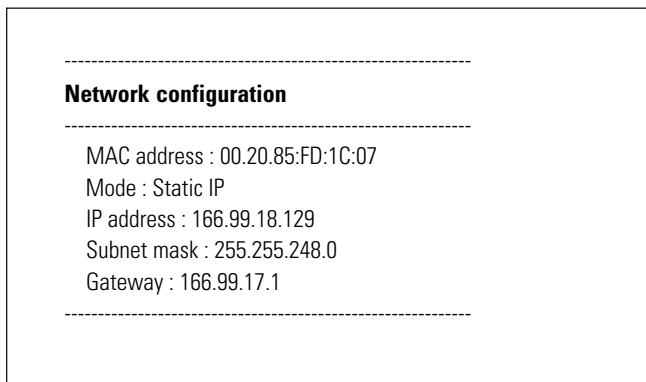

Figure 47. Read Network Settings Option
- **Read Network settings:** To view the network settings (see Figure 47).